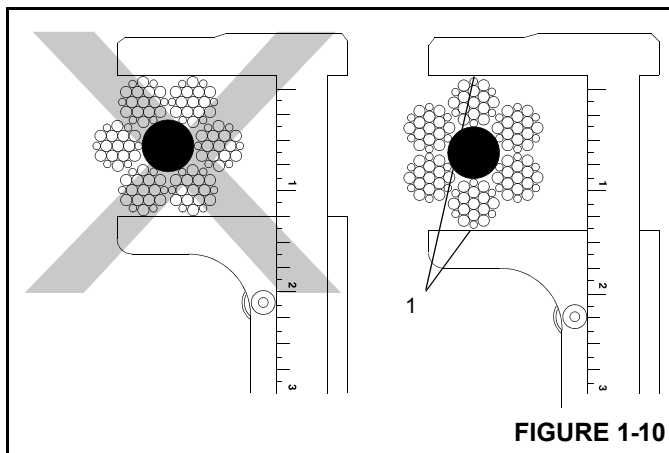

FIGURE 1-10
- Measure the rope's diameter across crowns (1) of the strands when determining if rope has become damaged Figure 1-10.